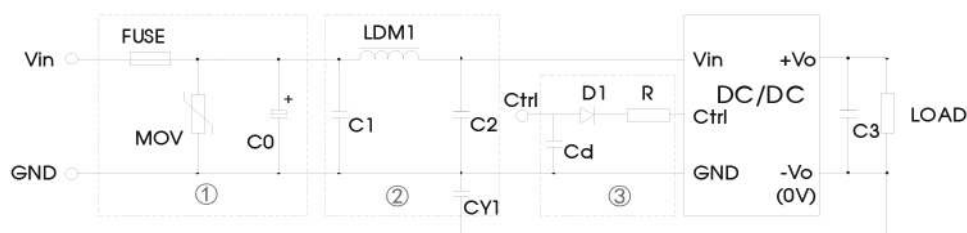

Fig. 3
① For EMC tests we use Part ① in Fig. 3 for immunity and part ② for emissions test. Selecting based on needs.
② VC is the voltage of the Ctrl end relative to the GND of the input grounding; VD is the positive-going conduction pressure drop of D1; IC is the current flows into the Ctrl end and its value is generally 5-10mA, see Fig. 3-③ for the peripheral circuit of Ctrl end;
③ If there is no recommended parameters, no external component is required.